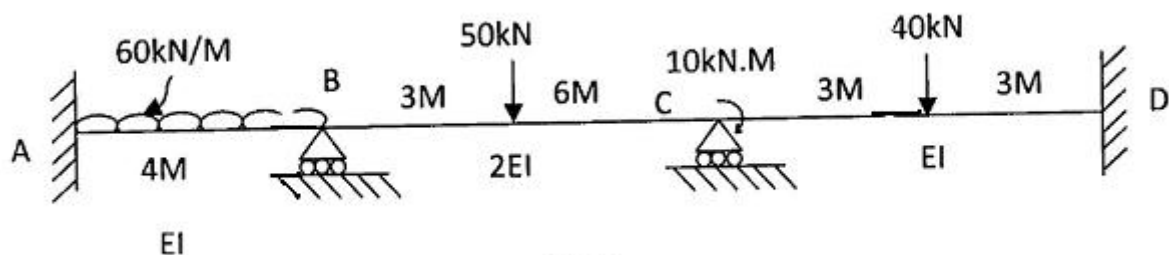

Fig. 3
- 14 Analyze the plane frame shown in Fig. 3 using stiffness matrix approach. Also draw BMD.